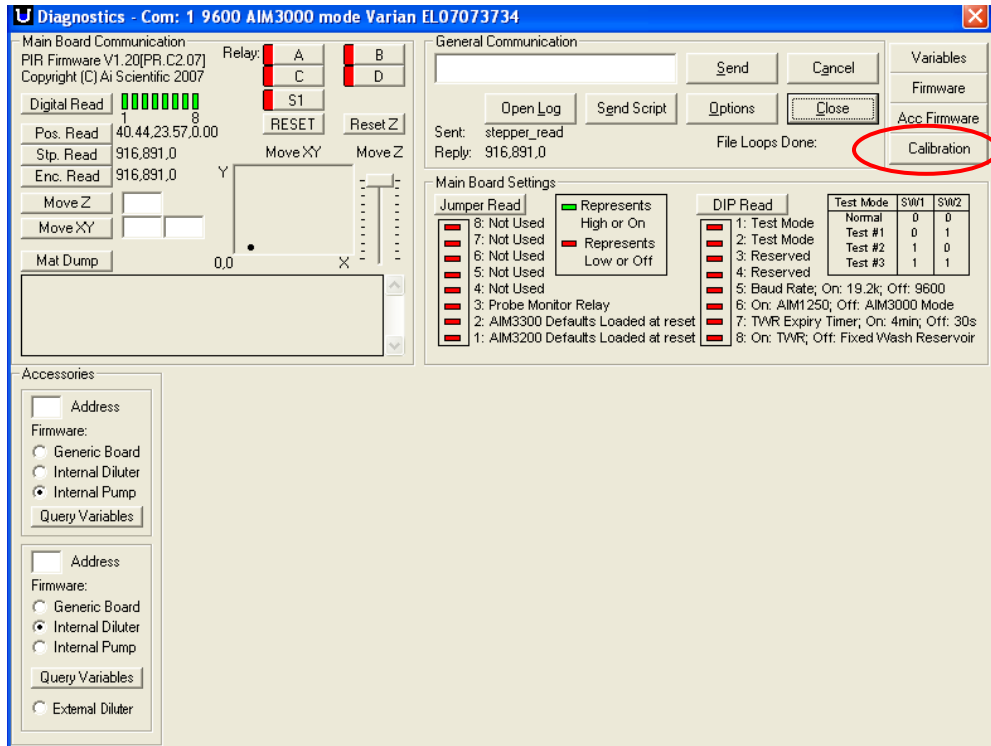

Figure 42. Diagnostics Screen of the Varian MDS Software
- In the diagnostics window (Figure 42), click on the Calibration button.
- Once the calibration window (Figure 42) opens up Clear the X and Y Offsets on the Lower Plane Calibration.